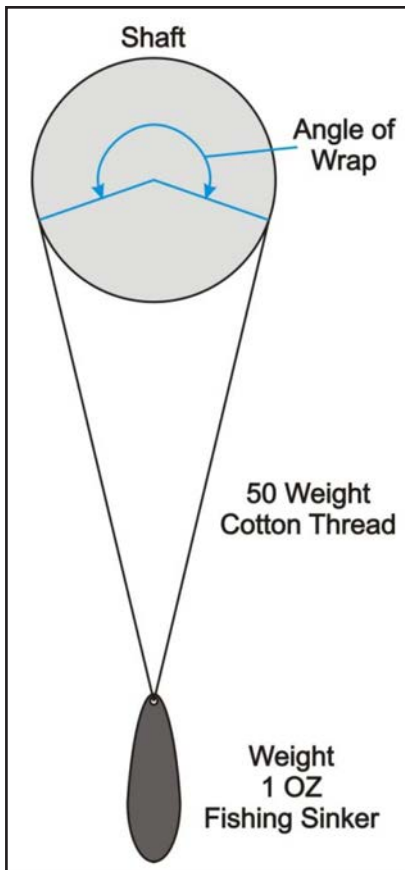

Figure 3 Lead test diagram.
**Theory.** A loop of thread is used to act as a stylus that rides in the lead grooves (Fig. 3). A light weight is attached to the thread to hold it in contact and prevent it from rotating with the shaft. The shaft is coated with a thin film of oil and rotated at a consistent speed to mitigate problems with friction and inertia. By knowing the shaft rotation speed and the time it takes the thread to travel a distance, the lead angle can be determined (Fig. 4).